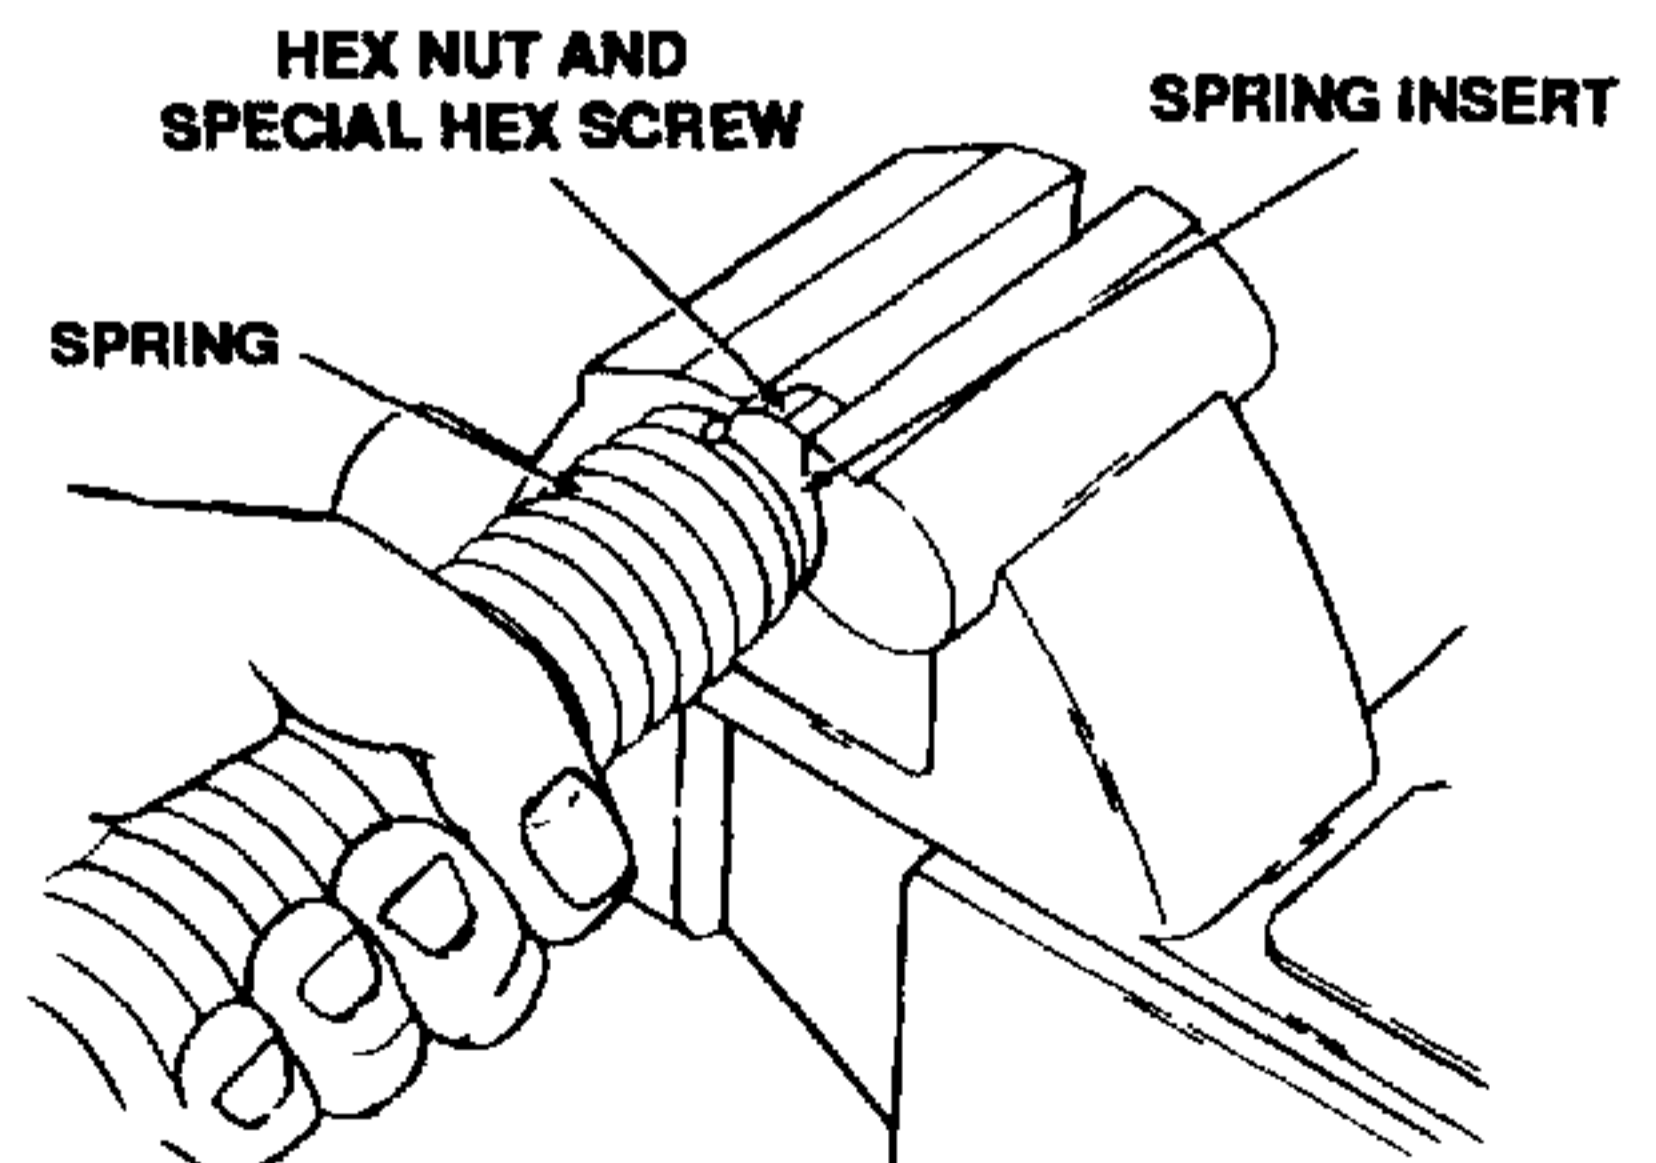

Figure 7-64. Assembling Spring Onto Spring Insert.
- a. Thread one 3/8-16 hex nut onto one 3/8-16 special hex screw (25, Figure 7-40). Refer to Figure 7-64.
- d. Screw spring onto spring insert until it is even with edge of spring insert. Refer to Figure 7-64.